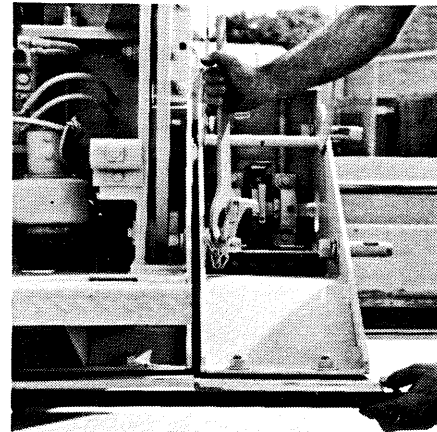

Figure 21
(10) Repeat Step 8 at the rear bottom alignment eccentric until both the front and rear edges of the screed extension match the main screed bottom. **(Figure 21)**